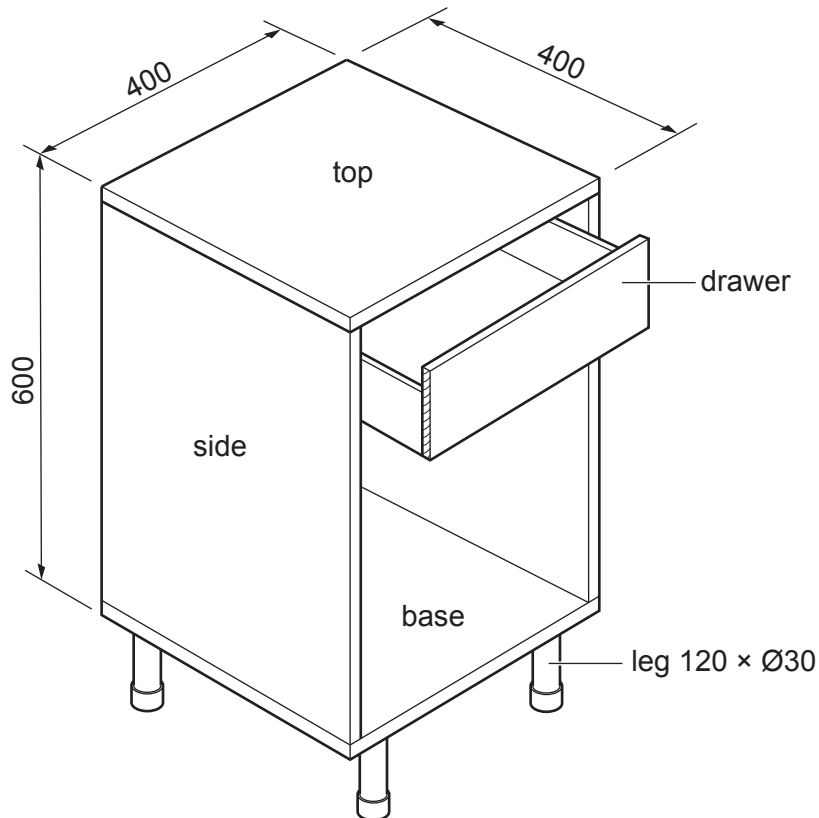

Fig. 11.1
- 11 Fig. 11.1 shows an incomplete design for a cabinet with a drawer. The cabinet is made from 18mm thick veneered chipboard and designed as flat pack for self-assembly.